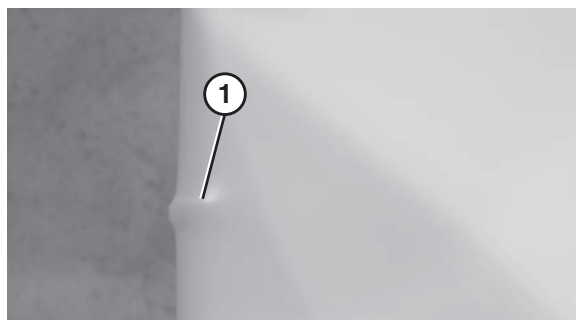

Figure 53
For v-guide belts, track until the bulge in the conveyor belt (Figure 53, item 1) lies flat.